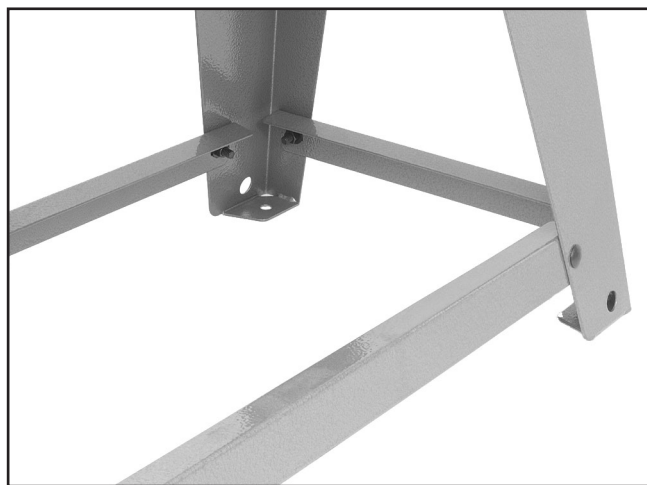

Figure 5. Leg braces.
1. Attach the short leg braces and then the long leg braces to the legs with carriage bolts, washers and hex nuts as shown in **Figure 5**.